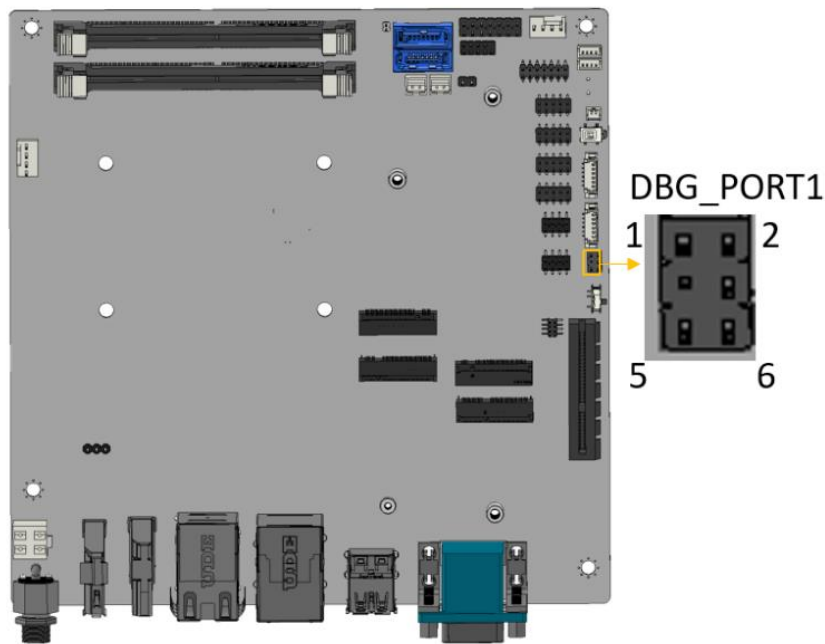

Figure 3-12: Debug Port Connector Location
- CN Location:** See **Figure 3-12**